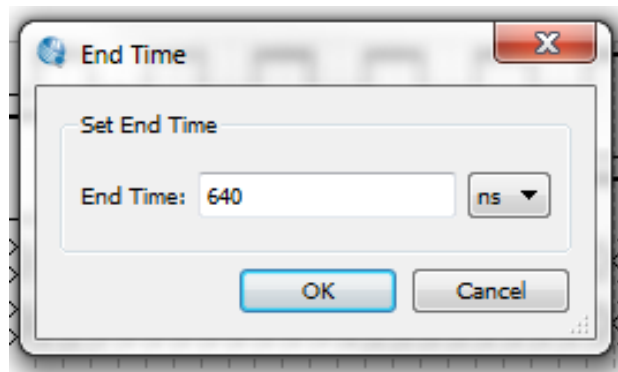

Figure 4.5.9: Setting end time
13. Enter a maximum value large enough that the largest period will be displayed completely and click OK (Figure 4.5.9).